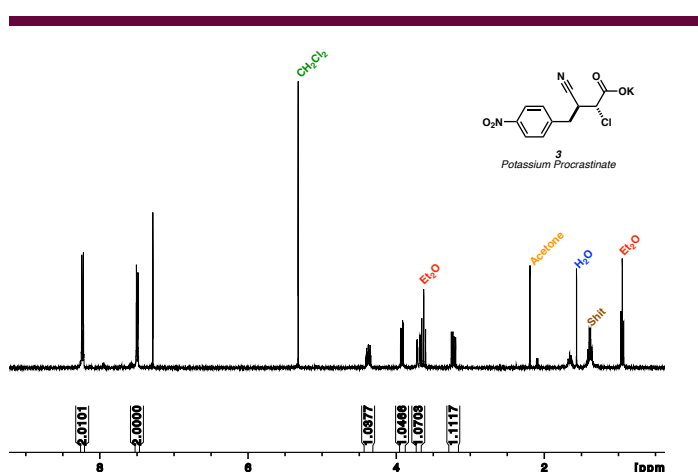

Figure 3: A ¹H NMR spectrum of street-grade potassium procrastinate.
This sample could be full of solvent residue, grease, water and assorted other shit, but no one will ever know. Let us turn now to a sample that actually is full of solvent residue, grease, water and shit. Figure 3 shows a sample of the popular study-drug, potassium procrastinate (3).